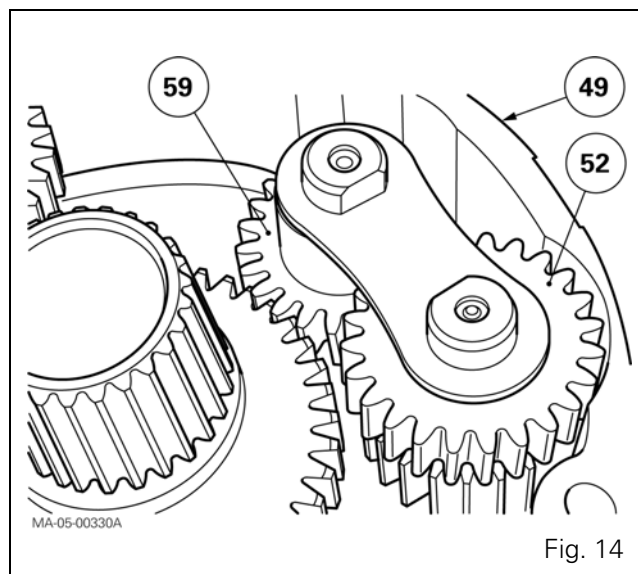

Fig. 14
- bearing (57) and position the snap ring (98),
- double and single planet gears (52) (59) positioned as shown in Fig. 14,
- the pins (50), with the lubricating ports fitted facing those in the planet carrier (49).